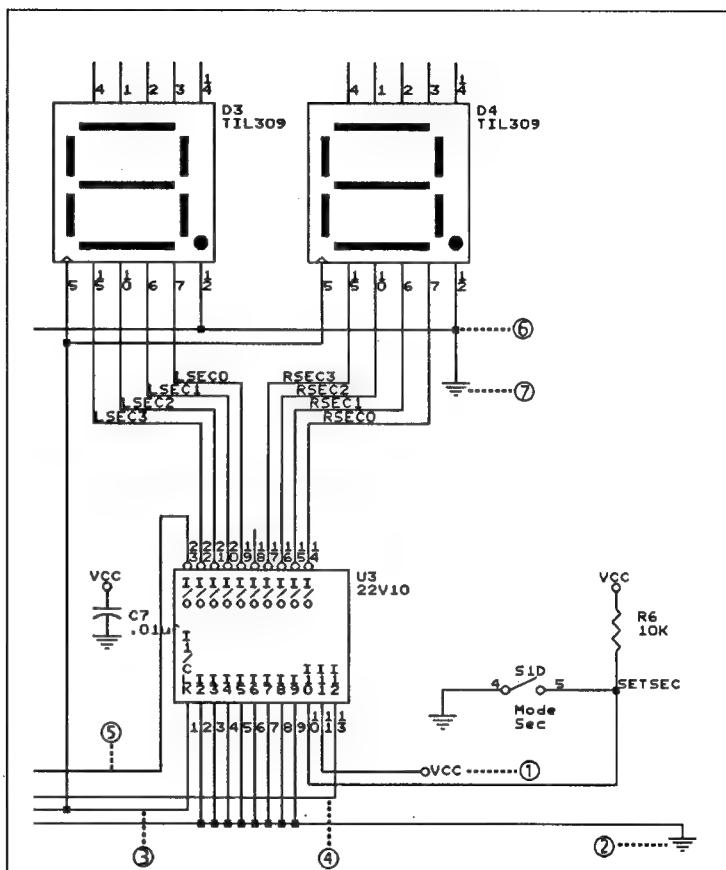

Figure 6-4. Seconds area of the clock logic. The callouts refer to the step numbers in this section.
The following steps correspond to the callouts in figure 6-4. Before you begin, move the pointer to the rightmost 22V10, and select ZOOM Select 1.
1. The horizontal wire from the 22V10's pin 11 should be shortened. Referring to the ① in figure 6-4, delete the wire and redraw it so that it is only six or seven grid spaces long.